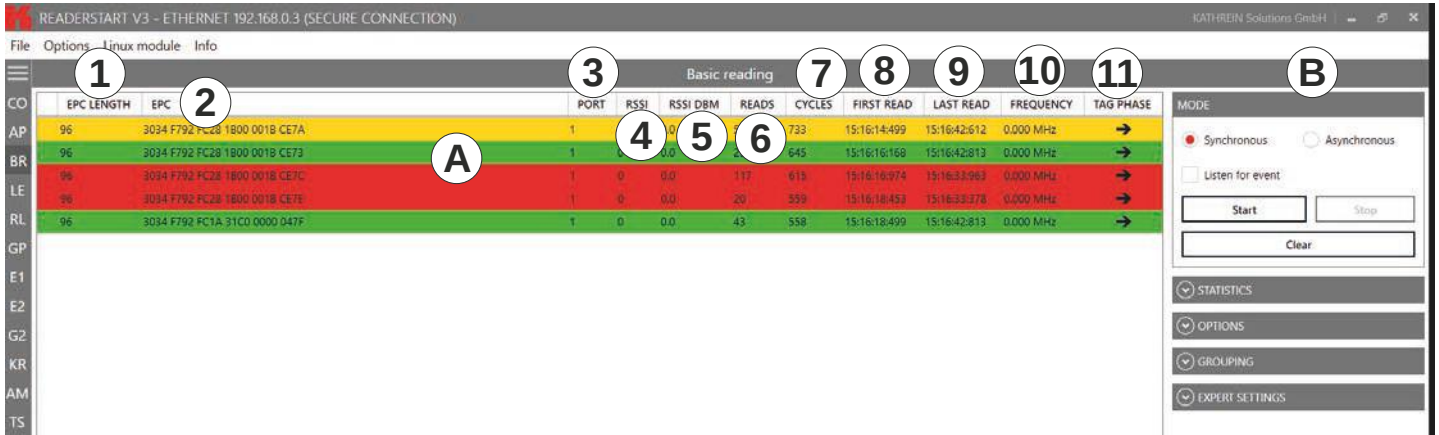

Fig. 34: Basic reading
- Click **Stop** (⑤) to stop the reading.
- Click **Clear** (⑥) to remove all tag entries from the table (Ⓐ in Fig. 34, p. 72).